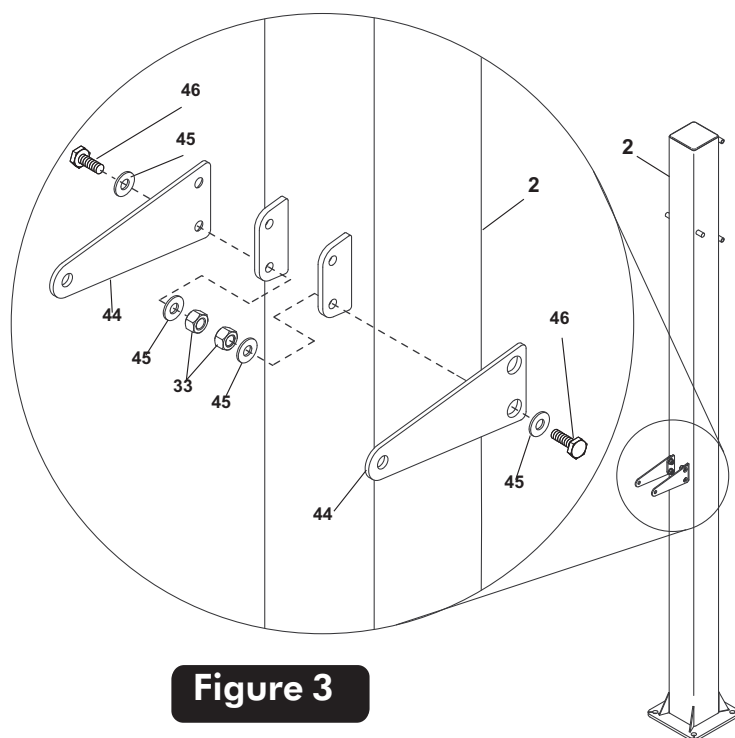

Figure 3
1. Attach Post Brackets (#44) to outside of brackets on back of Post Assembly (#2). Secure with two Hex Head Bolts (#46), four Flat Washers (#45) and two Locknuts (#33) in each bracket (#44). See Figure 3.